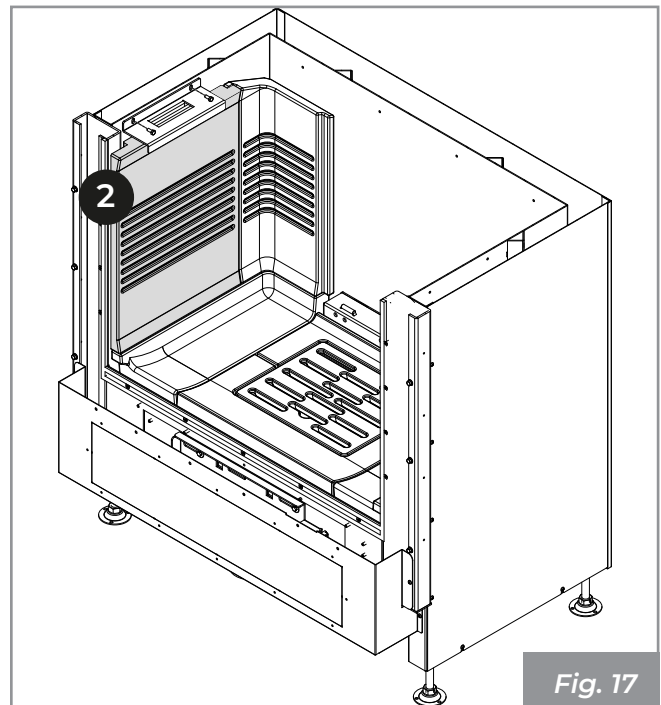

Fig. 17
- 3) Position the side refractory (2), taking care to insert it into the appropriate slots. Secure the refractory with the bracket, fastening it with the screws provided. (Fig. 17).